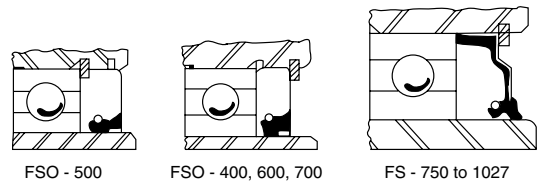
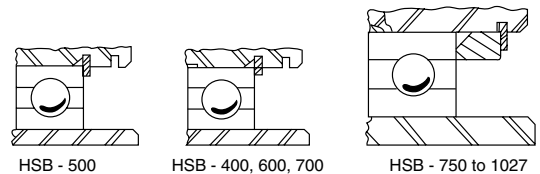

Figure 1, As Received
Figure 2, As Modified
1. Clutches are shipped with oil seals, in both ends, and half full of oil (see Figure 1). After the proper direction of rotation of the clutch has been determined, remove the oil seal on the reservoir side with a screw driver, (or similar instrument), being careful not to damage the clutch. On HSB Models 400, 600 and 700, the snap ring needs to be installed next to the bearing (see Figure 2). On HSB Models 750 and larger, a spacer (provided in the kit) needs to be installed next to the bearing, then restrained by reutilizing the snap ring (see Figure 2).